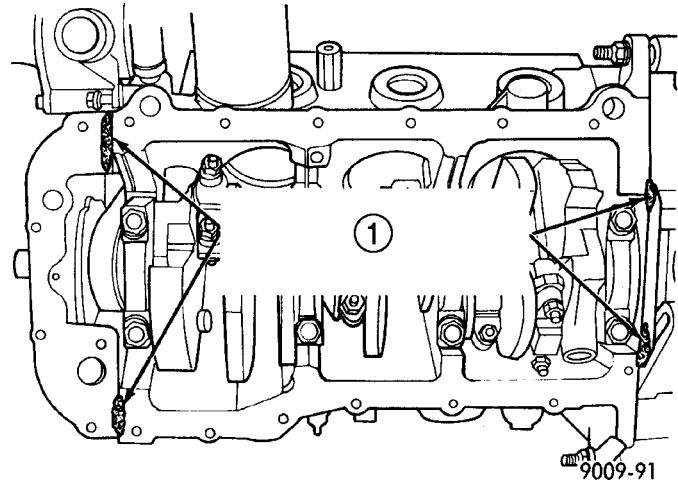

Fig. 103 Oil Pan Sealing
(1) Clean sealing surfaces and apply a 1/8 inch bead of Mopar® Engine RTV GEN II at the parting line of the chain case cover and the rear seal retainer (Fig. 103).